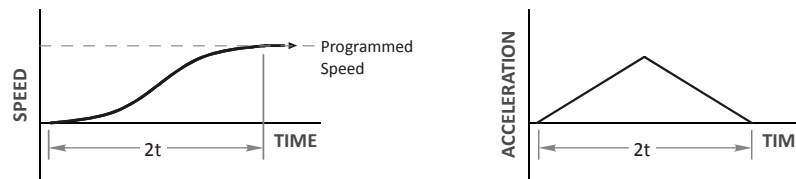

Figure R2.2 Triangular S-Curve Acceleration
When the Acceleration Jerk parameter is set low, Triangular S-Curve acceleration usually results. This occurs because the programmed maximum acceleration value is not reached before the IANG1(E) must start decreasing the acceleration value as the move's speed approaches its programmed maximum value. Triangular S-Curve is the smoothest form of acceleration, but the time needed to reach the move's programmed speed is increased. An example is shown in figure R2.2 where the acceleration and jerk settings results in a move that takes twice as long as a Constant Acceleration move to achieve the same velocity.